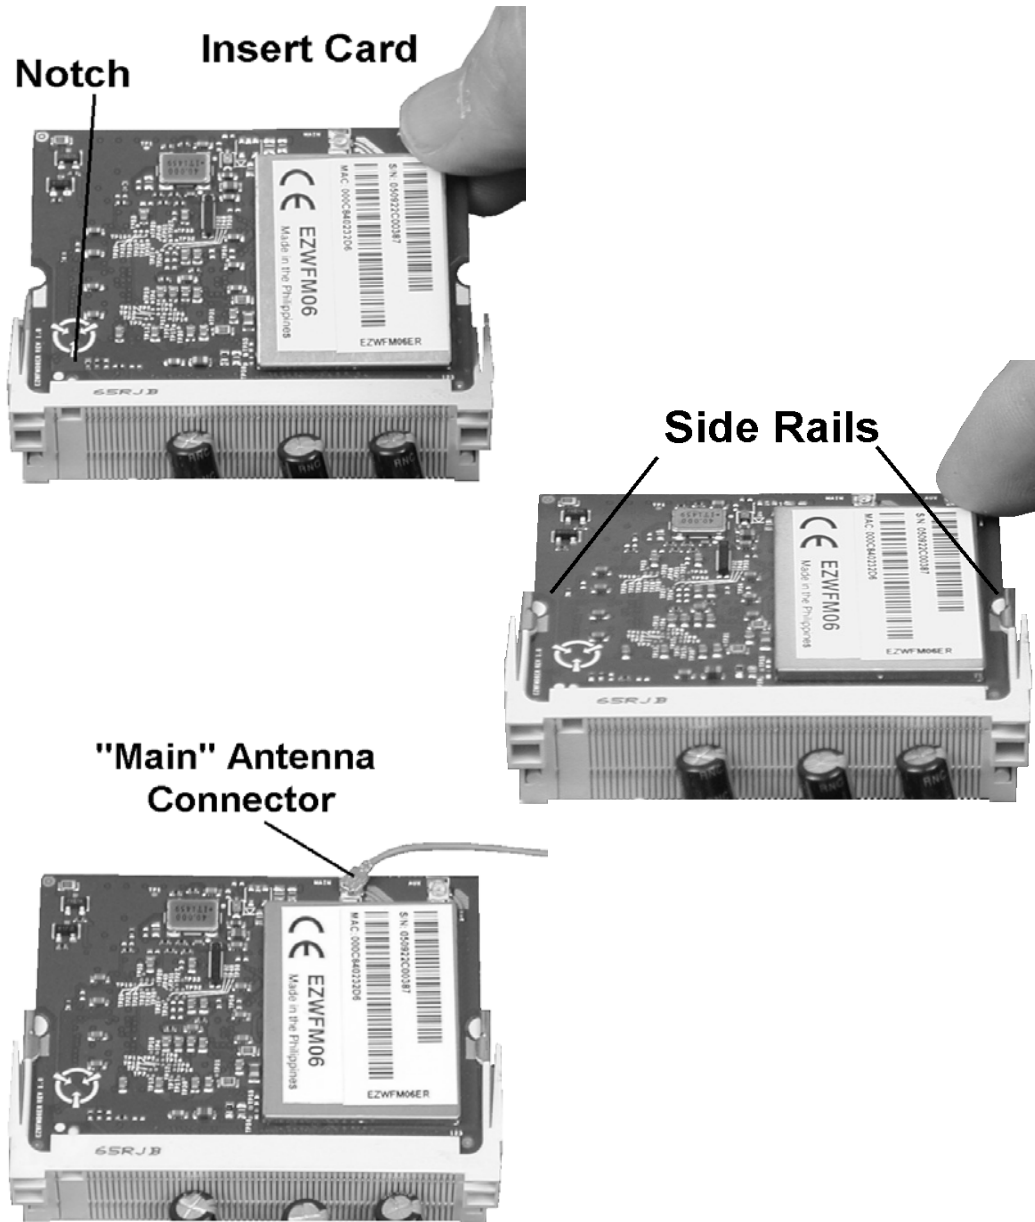

Figure 3-16: Inserting the Mini-PCI Card in the Socket
3. Observe the notch and begin by inserting the card at a 30 degree angle relative to the socket as shown in the top left of Figure 3-16. When the card is fully inserted, rotate it down until the side rails lock the board in place as shown in the middle of Figure 3-16. Finally, attach the antenna lead to the 'Main' terminal on the wireless card.